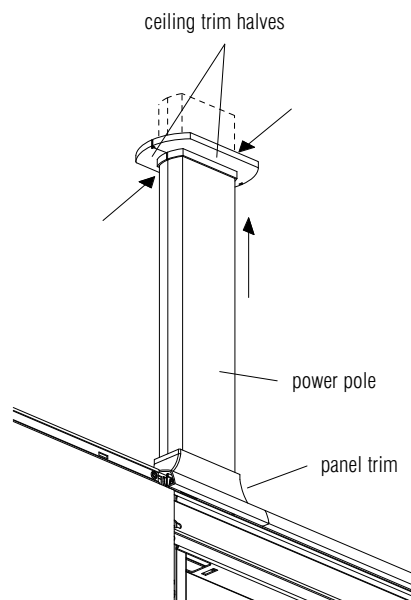

Figure 56
2. Position the two ceiling trim halves near the ceiling and snap them together around the power pole. Slide the trim against the ceiling, trim the ceiling tile as necessary. **Figure 56.**